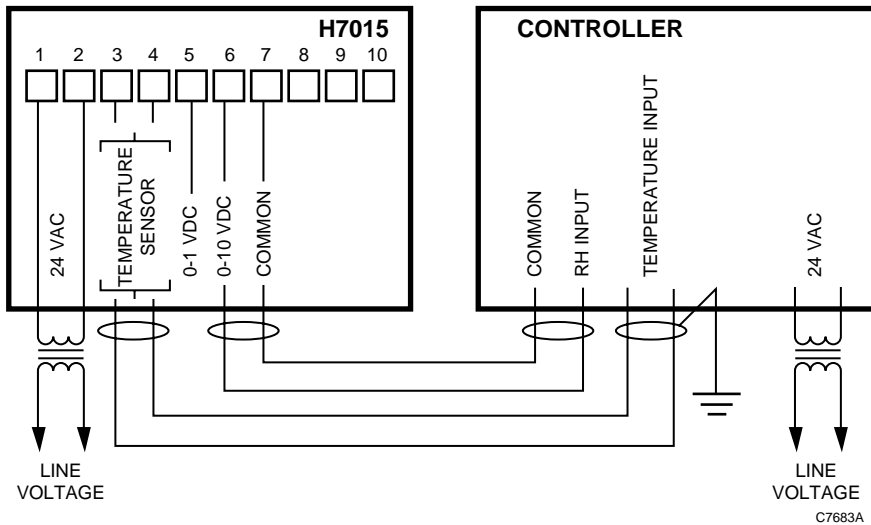

Fig. 3. Typical H7015 wiring.
Wiring (Fig. 3)
- Use two transformers: one for sensors, the other for the controller (see Fig. 3).